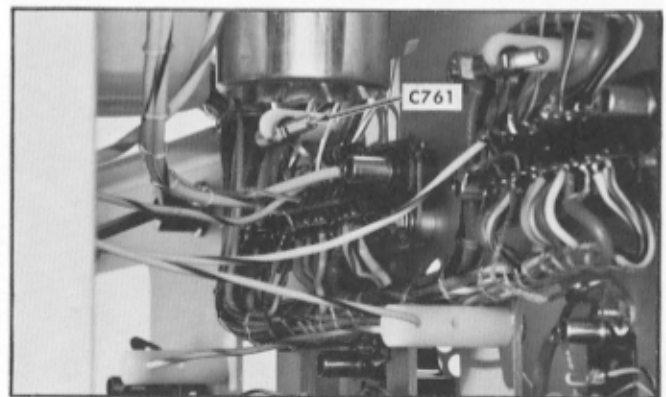

Fig. 5-17. Location of C761, step 9b.
Use the low-capacitance tool (item 16) to adjust C761 for best flat-topped square-wave display. (C761 is shown in Fig. 5-17.) Proper compensation is shown in Fig. 5-18. It may be necessary to position the leads to the deflection plates to aid in obtaining a good square-wave display.